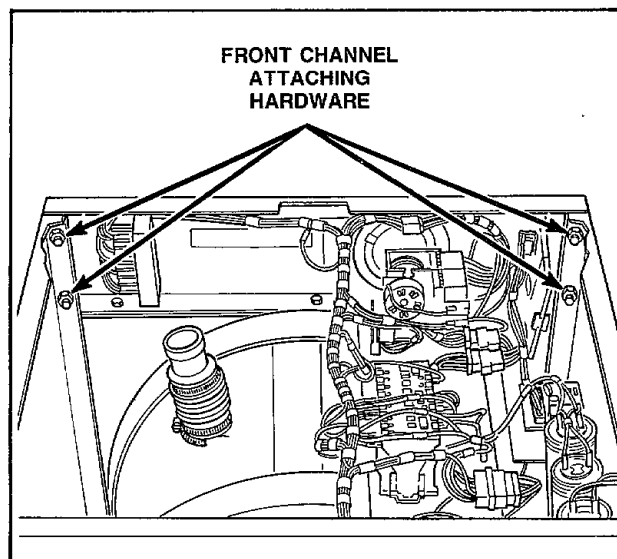

Figure 13
- i. Remove the hardware holding the side panel to the front channel, *Figure 13*.